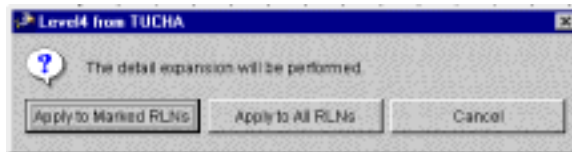

Figure 5.194 Level4 from TUCHA Window
4. On the Detail Expansion menu, click the Expand Level 4 Cargo from TUCHA command. The Level4 from TUCHA window opens (Figure 5.194).